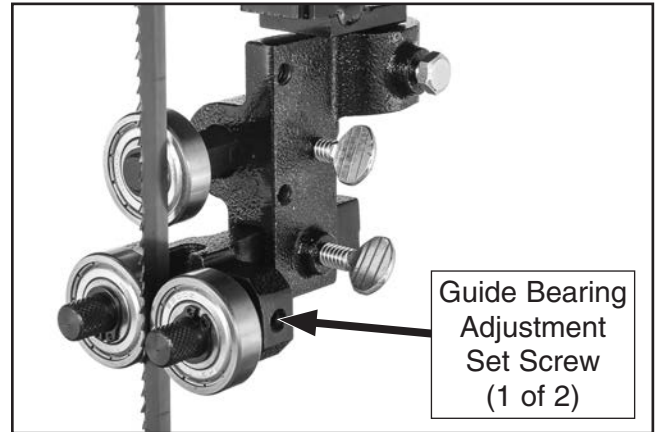

Figure 24. Location of upper guide bearing adjustment set screws.
- Loosen both guide bearing adjustment set screws (see **Figure 24**), then position guide bearings so they are close to—but not quite touching—sides of blade.